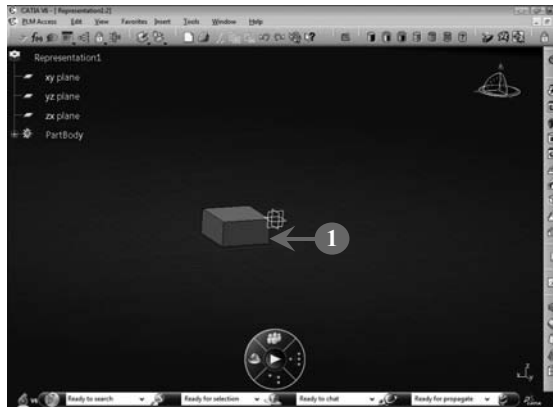

FIGURE 3.74
1. *Create* the model of a solid that you want to draft. In our case, a solid model of a parallelogram sketched in the Sketcher workbench is created, as shown in **Figure 3.74**: